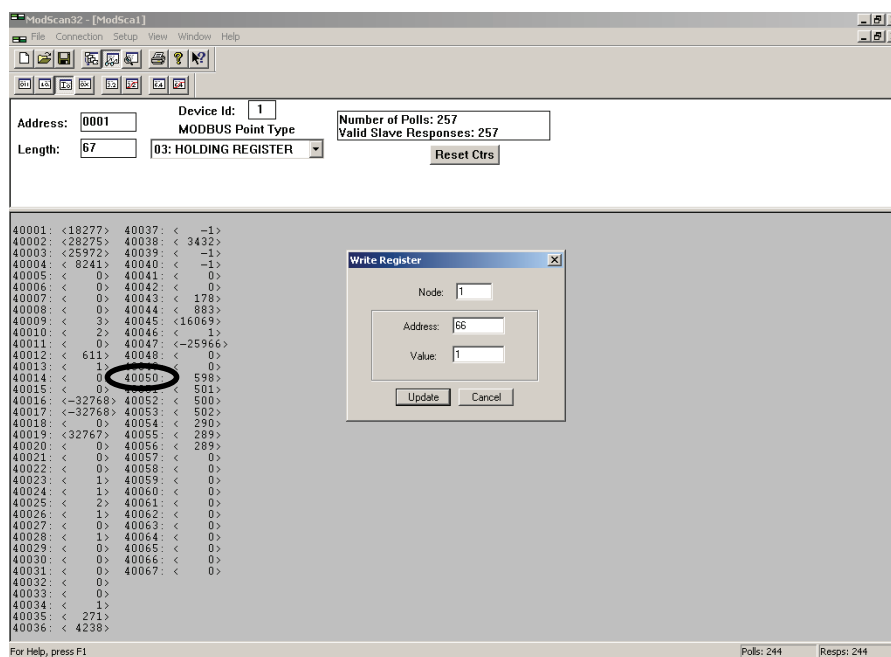

FIGURE 19. WRITE REGISTER DIALOG BOX
- On the main ModScan menu (see Figure 19), change the Length to 49.
7. To output a value from the ModLon to a network device, double click on register 40050. The Write Register dialog box is displayed (see Figure 19).